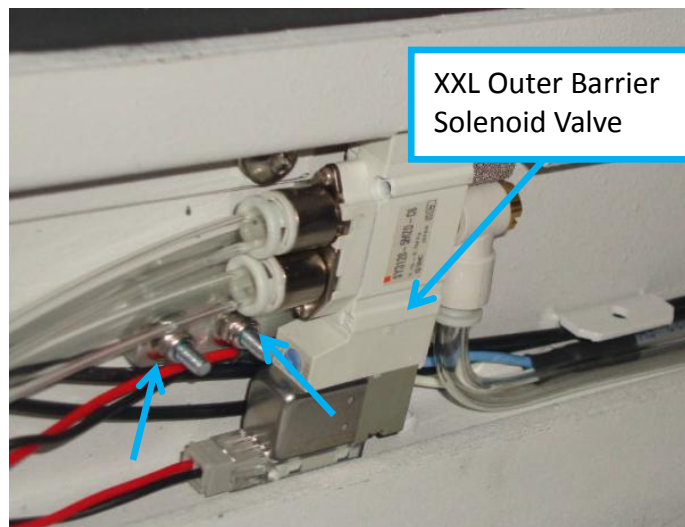

Figure 6
8. Loosen 2 x Nut and remove entire XXL Outer Barrier Solenoid Valve as below Figure 6.